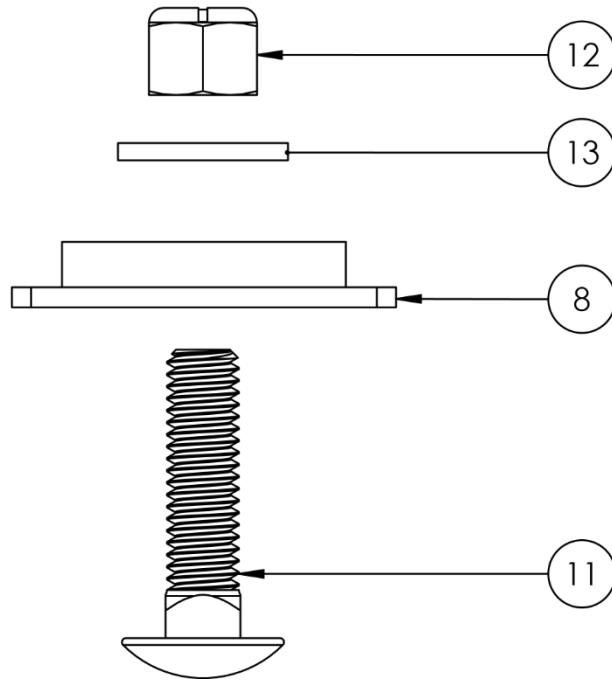

Figure 1
1. **Install the Stake Pocket Insert Plates.** To install the Bases (Item No. 3) you must first install the Stake Pocket Insert Plates (Item No. 8). The parts of this bolt assembly will be put together in the order as shown in Figure 1. Combine these parts but allow space for the Base (Item No. 3) by leaving the Lock Nut (Item No. 12) at the end of the Carriage Bolt (Item No. 11). Once this bolt assembly has been put together, insert the Stake Pocket Insert Plate (Item No. 8) into your truck's stake pocket by tilting the plate diagonally.